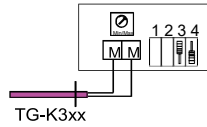
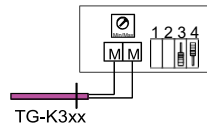

Figure 8 Switch setting and wiring of minimum limit sensor.
Figure 9 Switch setting and wiring of maximum limit sensor.
- Terminals M and M = Minimum/maximum limit sensor, not polarity sensitive (*Figure 8 and Figure 9*)